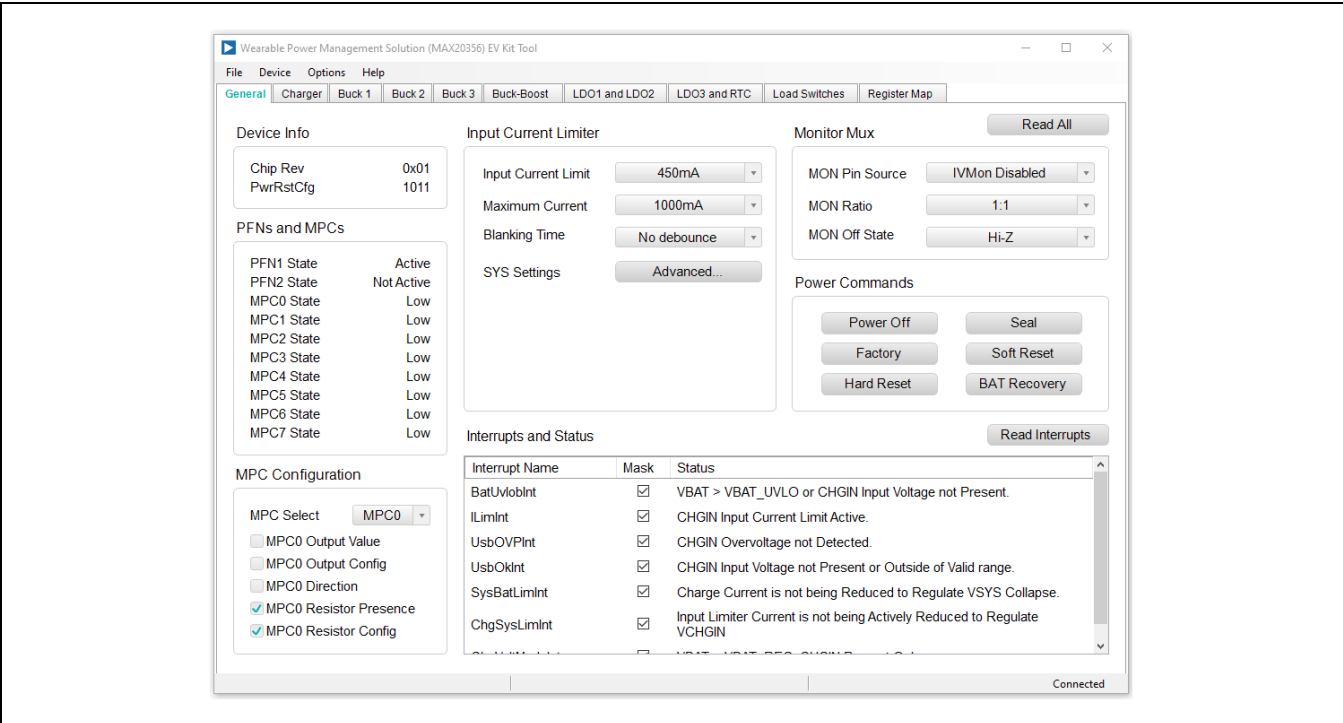

Figure 2. Connected Status
13. The MAX20356EVKIT should be powered on, and the status of the EV kit Tool now shows **Connected**, and the registers are read and displayed Figure 2.